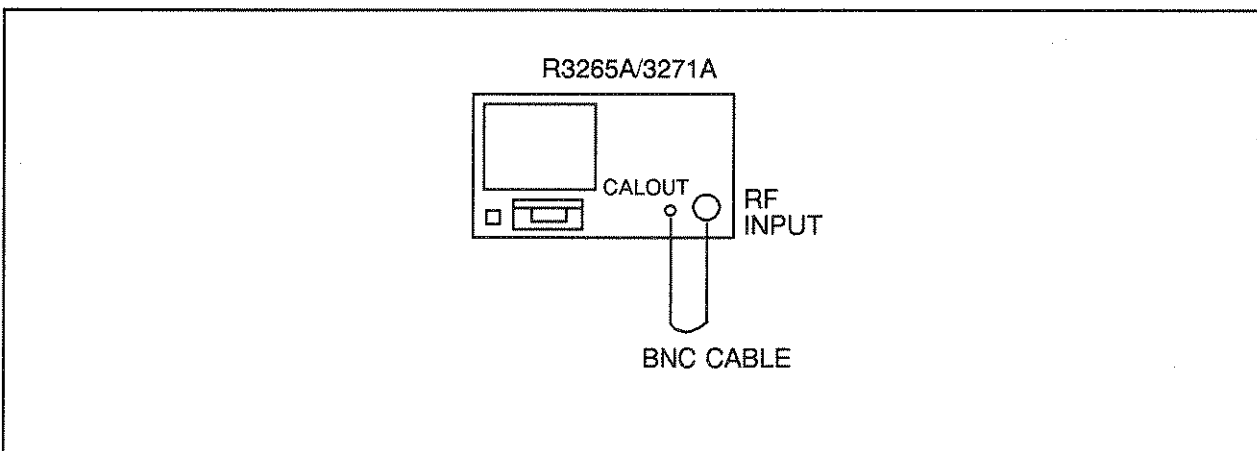

Figure 4-7 Resolution Bandwidth Accuracy/Selectivity Setup
(1) Connect the R3265A/3271A CALOUT to the INPUT 50 Ω as shown in Figure 4-7.
(2) Press **PRESET** and set the controls as follows: